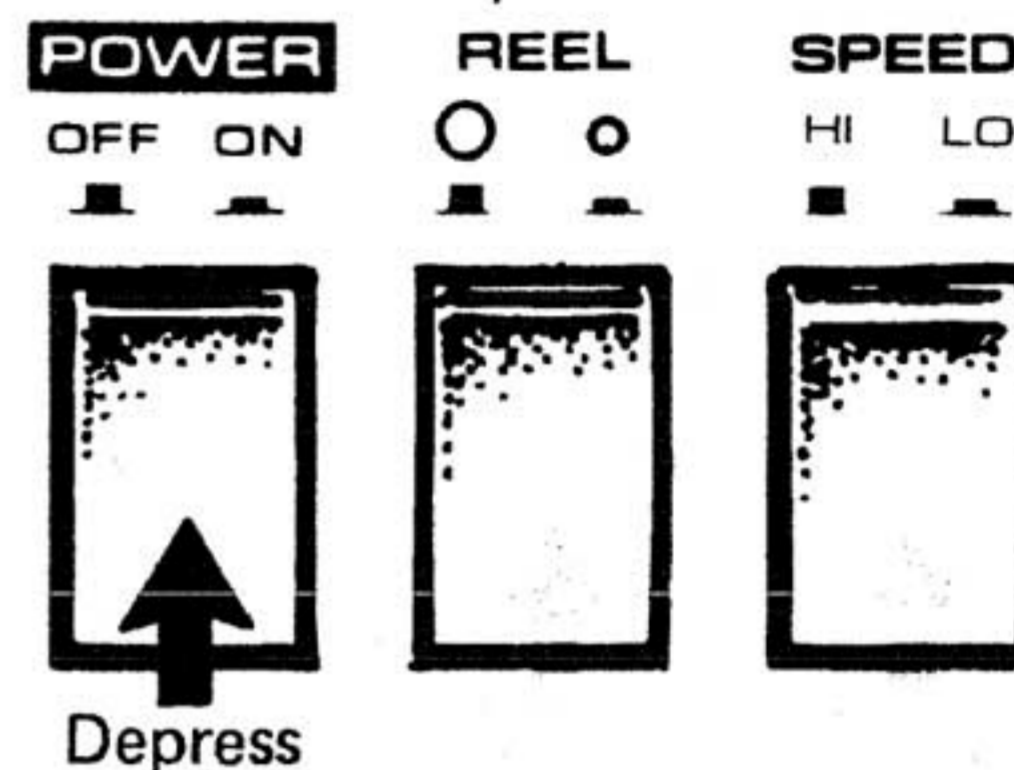

Fig. 23
2. Depress the power switch (Fig. 23).
3. Confirm REEL SIZE SELECTOR button setting (Fig. 23). Depressed position is for 7in (17cm) reels and raised position for 10-½in (26cm) reels. It is important to check this selector button setting, as improper tape tension can impart stresses on the tape. When restoring the button to the raised position, push it and release.
4. Set SPEED switch for desired tape speed (Fig. 23).